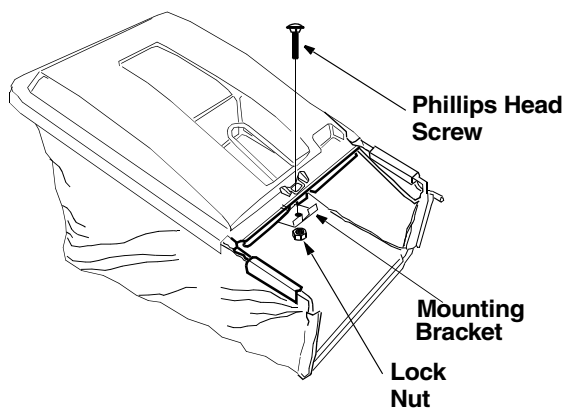

Figure 9
- Place the mounting bracket under the front of the handle, with the tabs on the bracket facing up. Insert phillips head screw down through the hardtop cover and mounting bracket. Secure with hex lock nut. See Figure 9.